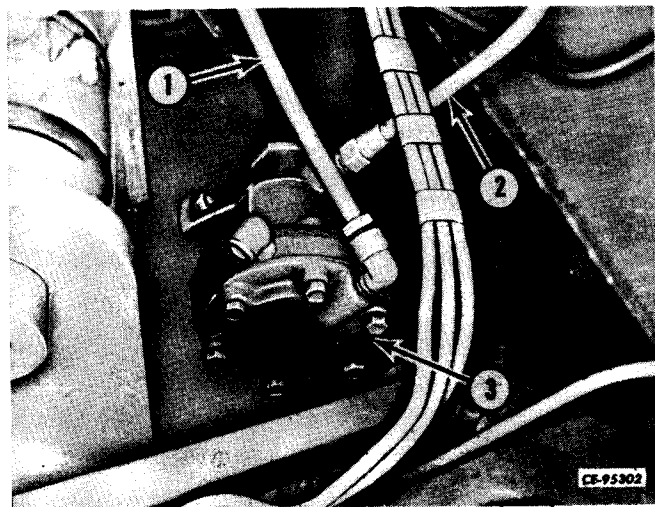

Figure 13-51
Disconnect and tag the air lines (1 and 2, Fig. 13-51) at the moisture ejection valve (3) from the treadle valve and wet reservoir.